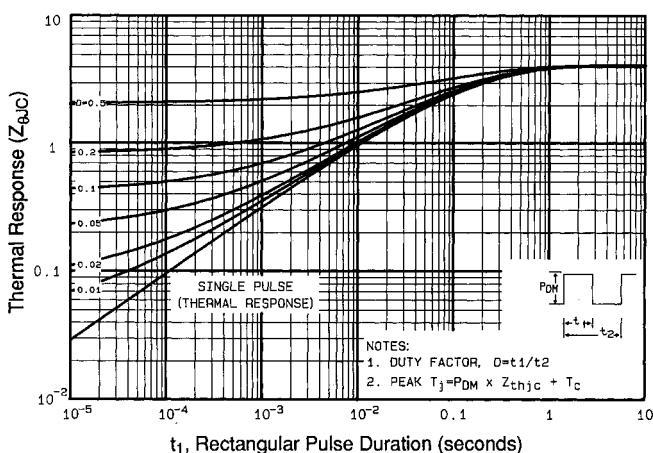

Fig 11. Maximum Effective Transient Thermal Impedance, Junction-to-Case
① Repetitive rating; pulse width limited by max. junction temperature (See Figure 11)
③ $I_{SD}\leq-6.8\text{A}$, $di/dt\leq110\text{A}/\mu\text{s}$, $V_{DD}\leq V_{(\text{BR})\text{DSS}}$, $T_J\leq175^\circ\text{C}$ ⑤ $t=60\text{s}$, $f=60\text{Hz}$ ② $V_{DD}=-25\text{V}$, starting $T_J=25^\circ\text{C}$, $L=16\text{mH}$